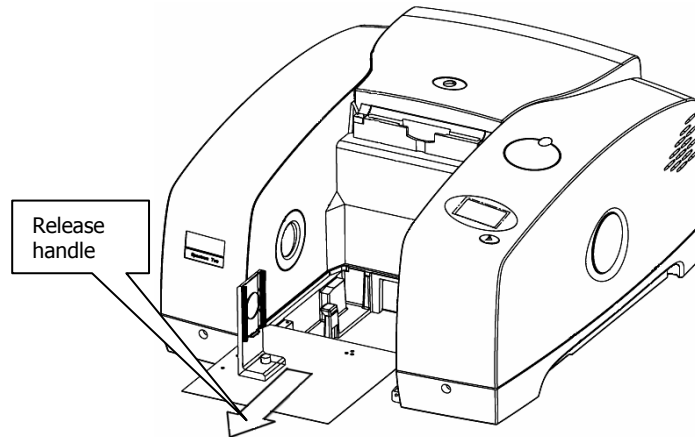

Figure 51 Removing the sampling accessory
2. Remove the current sampling accessory by pulling the blue release handle (under the baseplate of the accessory) towards you and then sliding the accessory towards you (Figure 51).